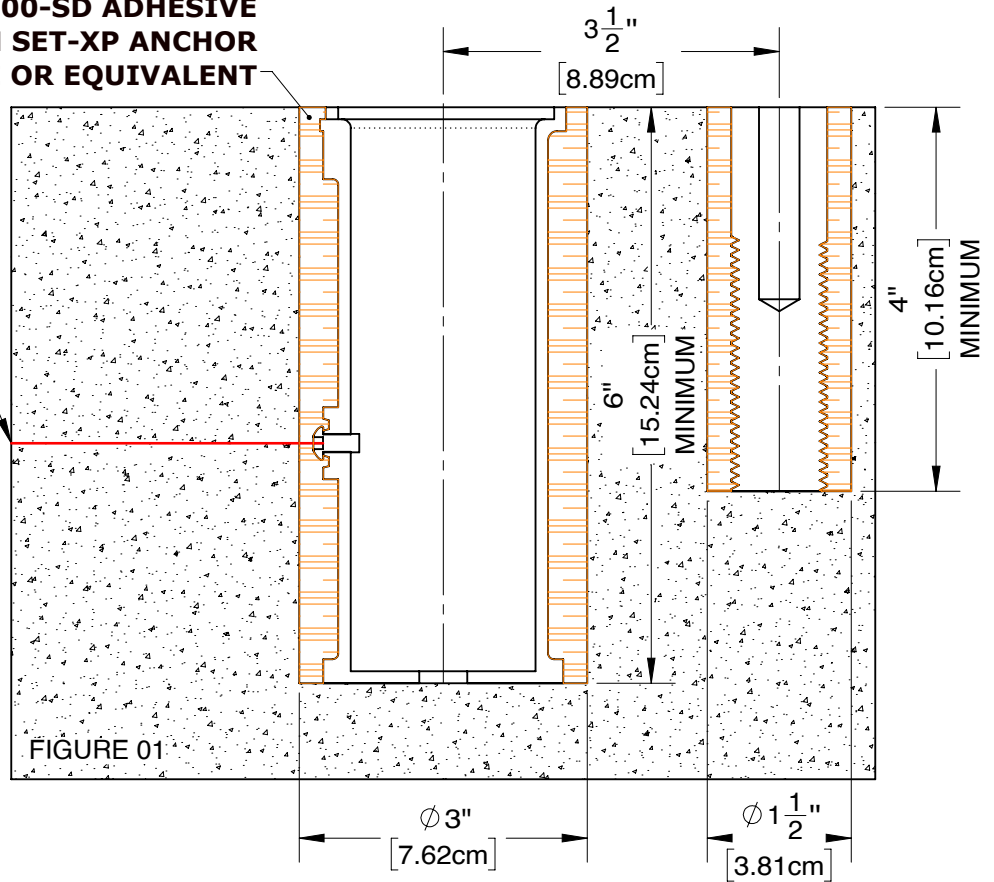

FIGURE 01
- CLEAR DECK SPACE DIMENSIONS (SEE FIGURE 01)